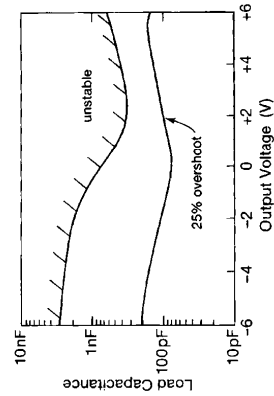

Figure 4.79. Stability versus capacitive load for a LMC6482 op-amp follower with $R_{\text{load}}=2\text{k}$ and $\pm 7.5\ \text{V}$ supplies.
- You can seek an op-amp that guarantees stability into the range of load capacitances you expect. Many op-amps provide good data in the form of plots of "Stability versus Capacitive Load." Figure 4.79 shows an example, taken from the datasheet for the LMC6482.